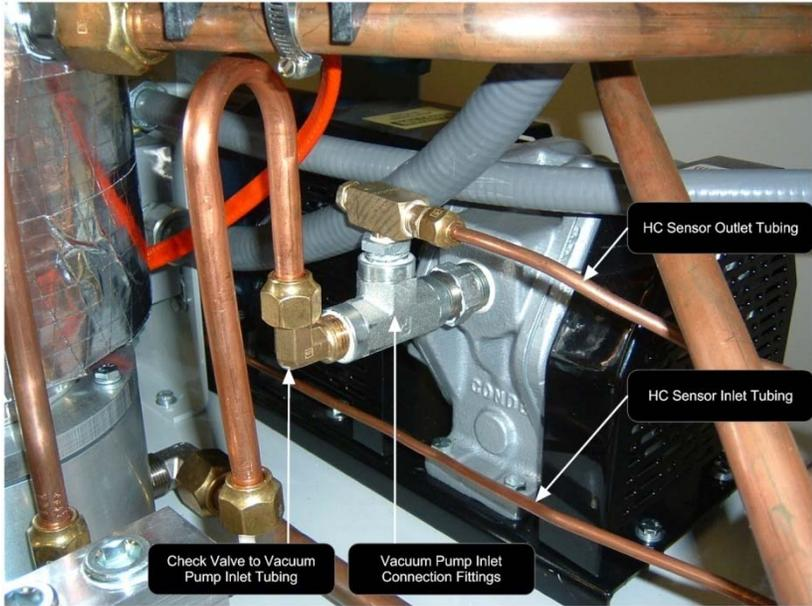

Figure 25: Vacuum pump inlet tubing and fittings
- See Figure 25: Page 15-66.
- Completely remove the vacuum pump ½" and ¼" inlet 45° flare tubing and all pipe fittings connected to the vacuum pump. See Figure 25 Page: 15-66.